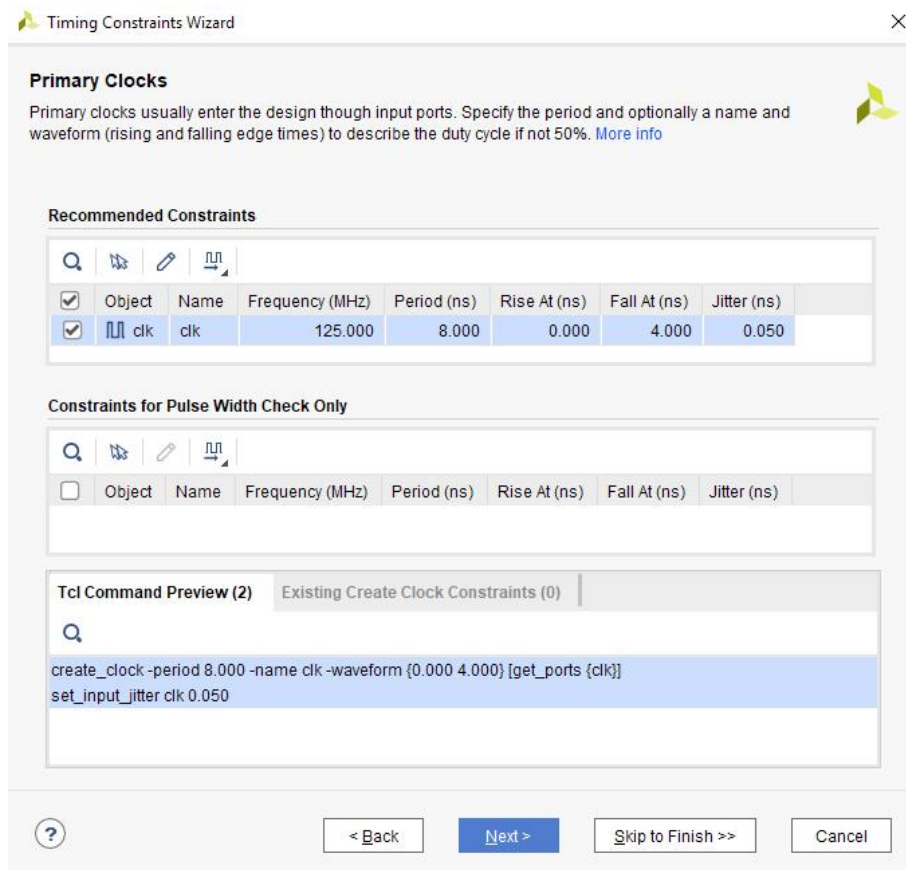

Figure 47
6. Check if everything is correct (Figure 47) and click **Skip to Finish**